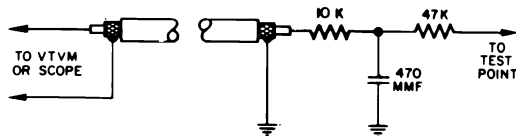

Figure 14 — Decoupling Network
**Oscilloscope** — Use a low-capacitance direct probe terminated with the decoupling network shown in Figure 14. Keep the oscilloscope calibrated for 2 volts peak to peak (P-P).